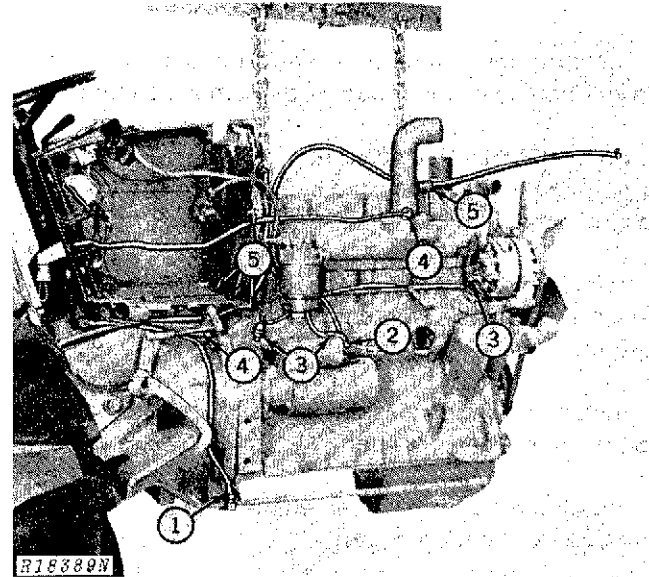

Fig. 10-Right-Hand Removal Procedure
1. Disconnect and remove the power steering pressure pipe (Fig. 10).